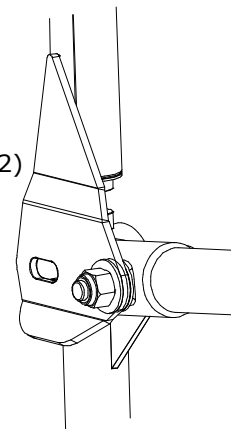
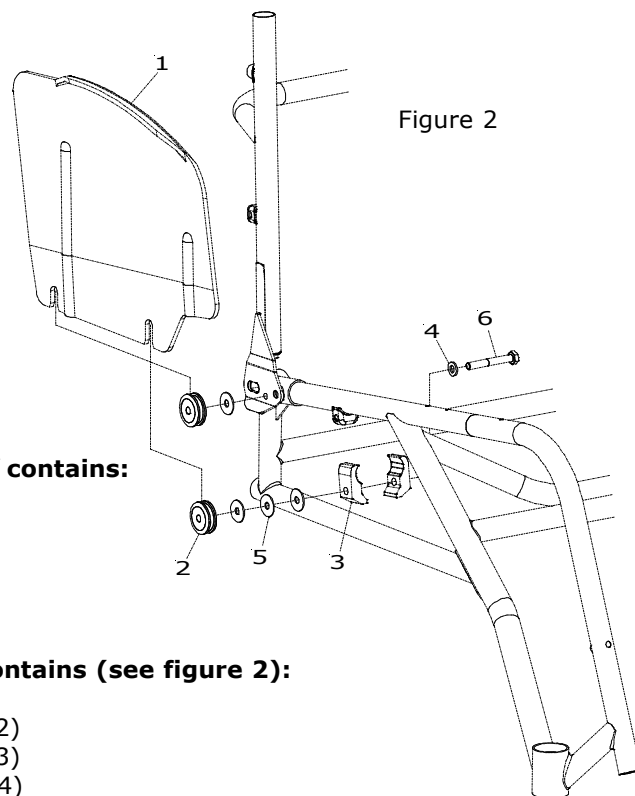

Figure 1
Figure 2
1. Start by unscrewing the nut located on the backrest frame bracket of your chair (figure 1) and replace it with a washer (5) and a cog fastener (2) as shown in figure 2. Tighten the cog fastener securely. (When you tighten the cog fastener you should use some form of threading lock, such as Loctite, to prevent the cog unscrewing to become loose).
2. Take both clamps (3) and place them around the seat tubing of the chair. Screw them in place loosely using the small washer (4), the bolt (6), the bigger washers (5) and a fastener cog (2). See figure 2.
3. Push the side guard (1) down into the cog fastener located on the backrest frame bracket and move the front cog fastener forwards or backwards until the side guard also fits into the front cog fastener.
5. When you have found a position where you can remove and insert the side guard easily and it is straight, tighten the bolt (6) securely.
“Attachments sideguards, complete” contains (see figure 2):